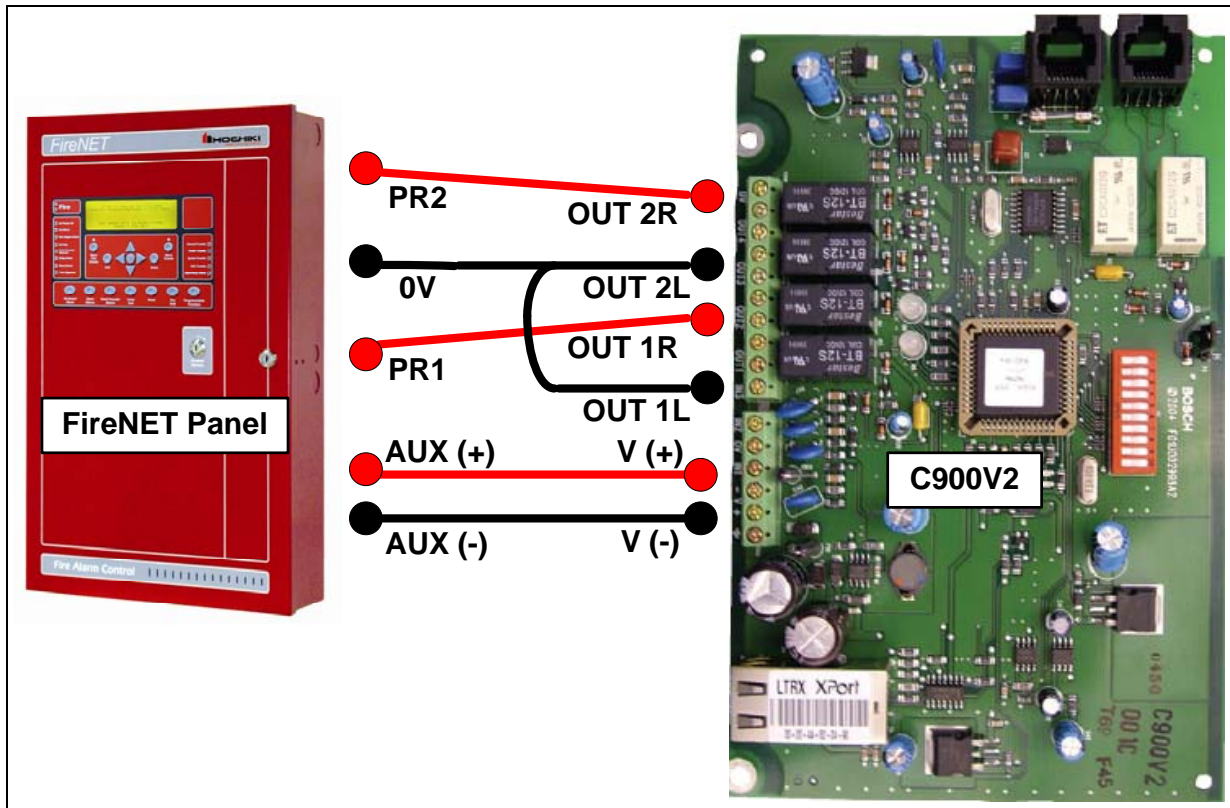

Figure 2
- ✓ C900V2's Output 1 and Output 2 must be wired to the FireNET Panel. Refer to C900V2 Supervision section and Figure 2.